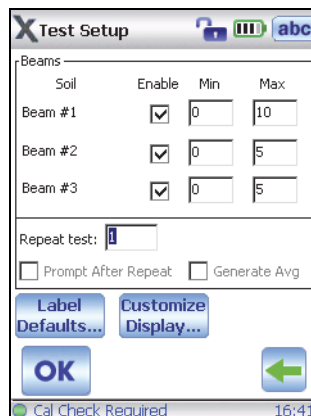

Figure 4-25 The Test Setup screen
7. In the **Test Setup** screen (see Figure 4-25 on page 81), enter the desired beam and other testing parameters using the virtual keyboard.